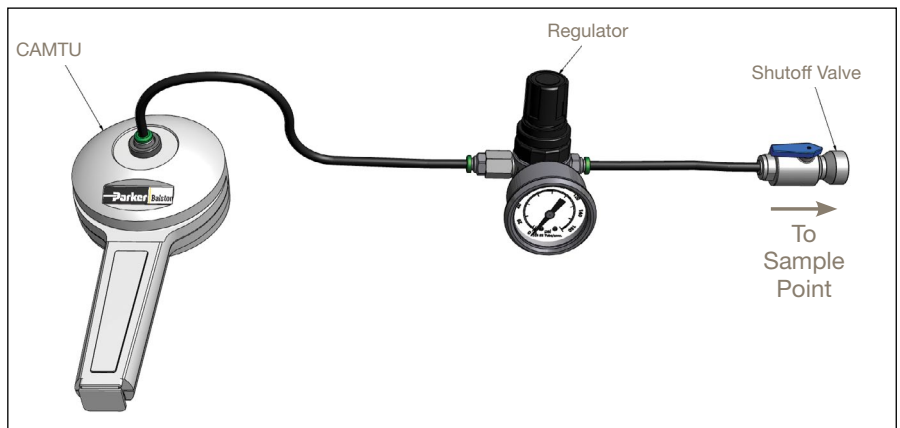

Figure 1: CAMTU Setup
2. Assemble the tubing to the shutoff valve, regulator and CAMTU as shown in Figure 1 and connect to a compressed airline (150 psig or less).
2. Assemble the tubing to the shutoff valve, regulator and CAMTU as shown in Figure 1 and connect to the compressed air system.